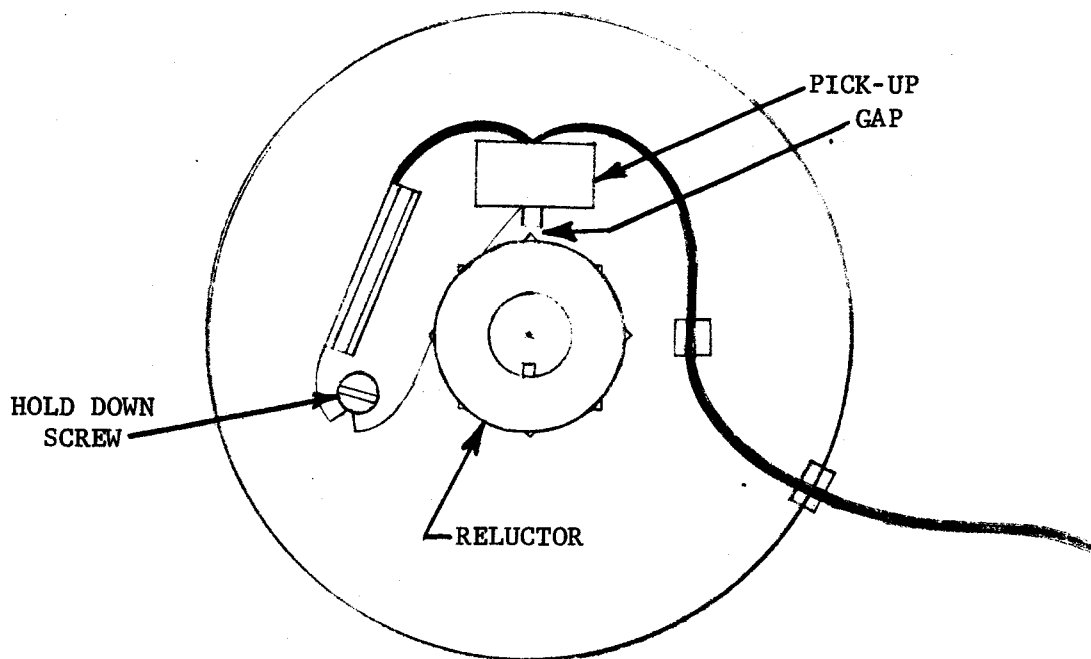

FIGURE 2
15. Check gap in distributor between reluctor and pickup (see Figure 2, Page 4) set at .008".
16. Tighten pickup hold down screw (see Fig. 2, Page 4). Re-check pickup to reluctor clearance.